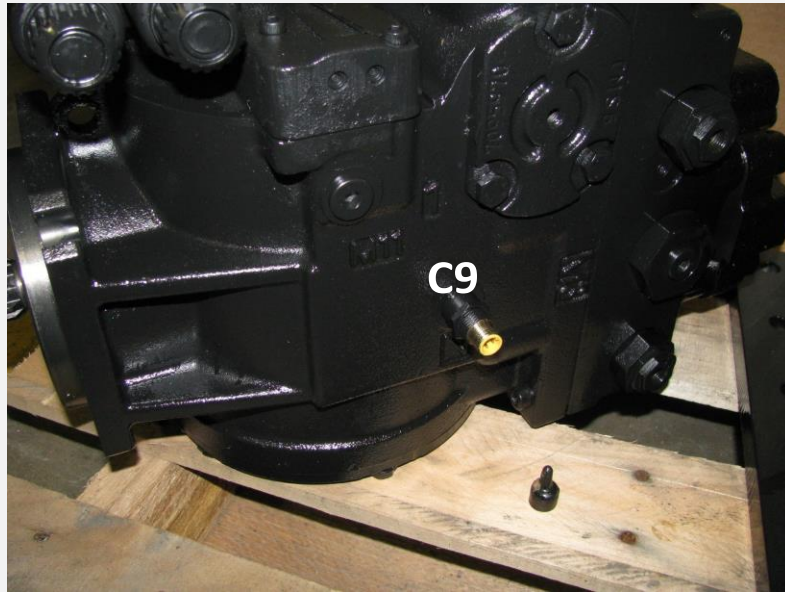

Figure 7.30 Primary Pump Speed Sensor
28. Plug connector C9 connector into the pump speed sensor on the side of the primary pump (Figure 7.30).